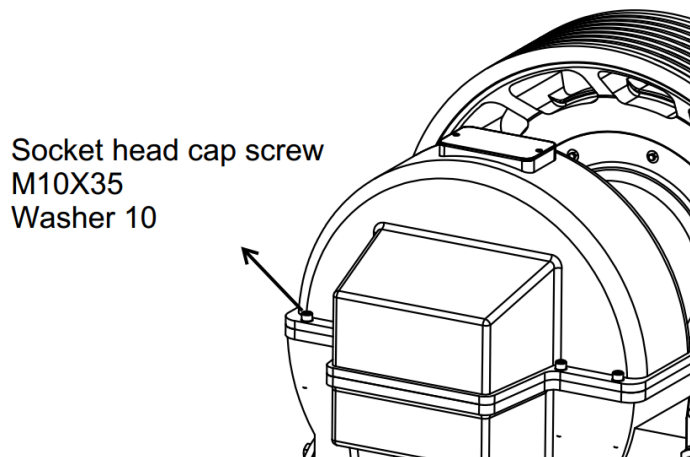

Figure 21 Hoisting the Gear case top
4. Remove the eight Bolts M10X35 and then remove the top gear case. See Figure 21.